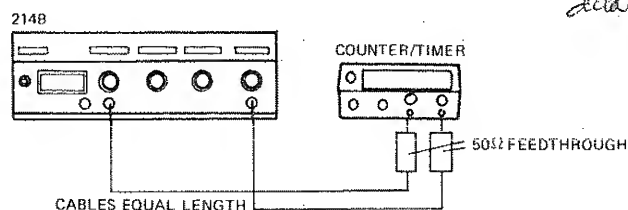

Figure 4-3.
8. Change test setup to that shown in Figure 4-3 to check DELAY RANGES. $.1\mu - 1\mu$ to 1m-10m.